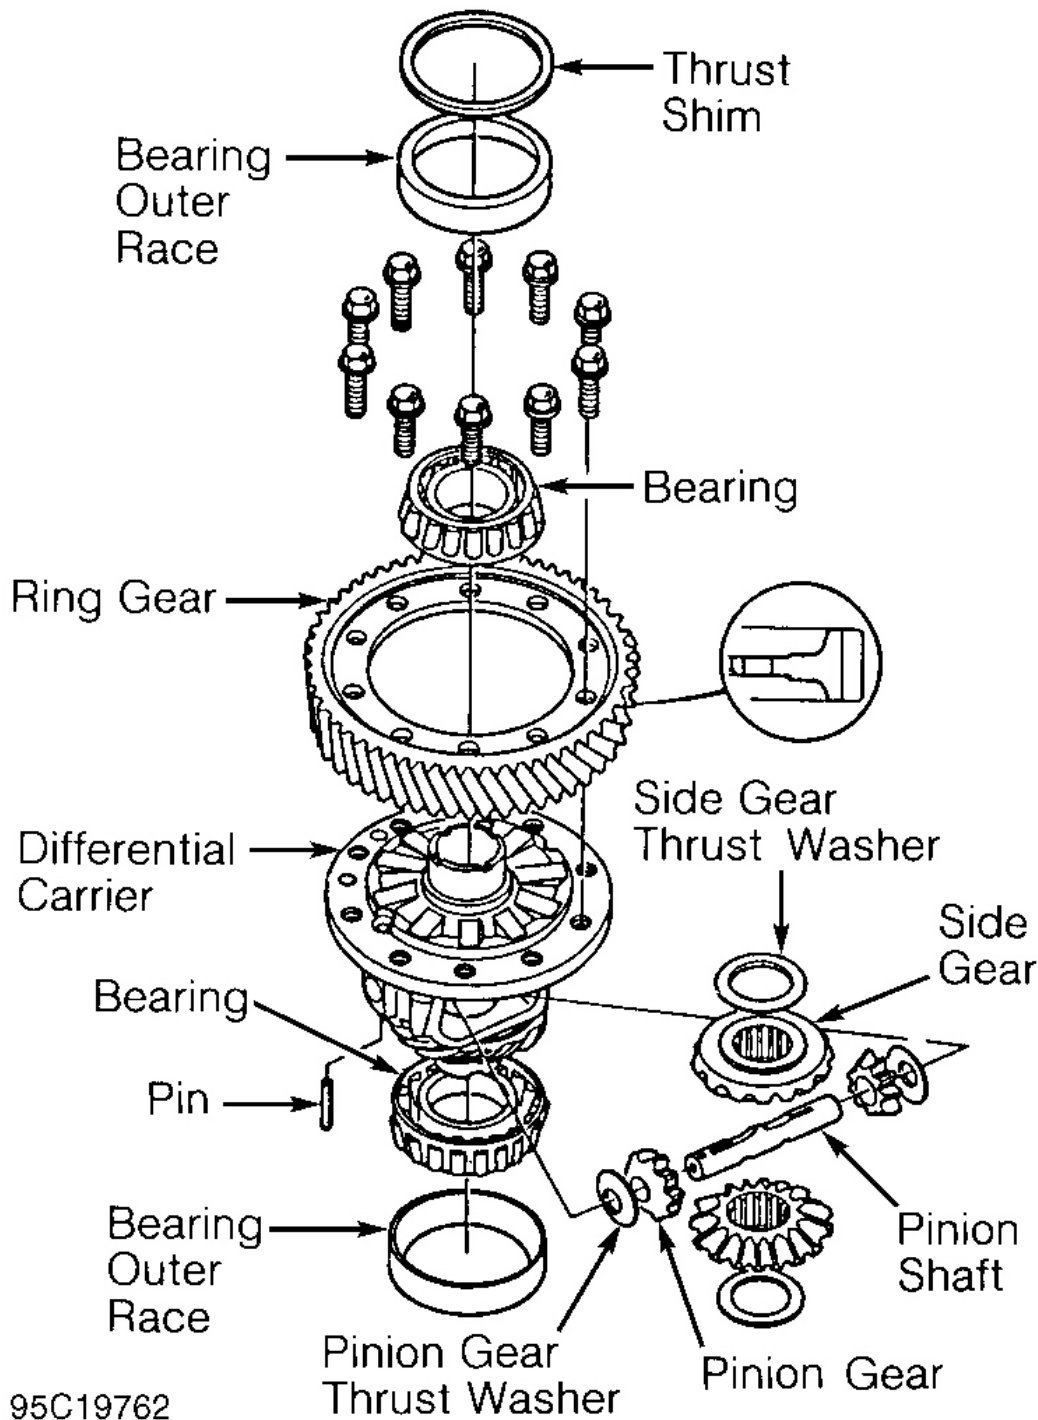

Fig. 31: Exploded View Of Differential Assembly (1993 Models)
5. On 1993 models, drive pin from differential carrier. See **Fig. 31** . Remove pinion shaft, pinion gears, side gears and thrust washers.